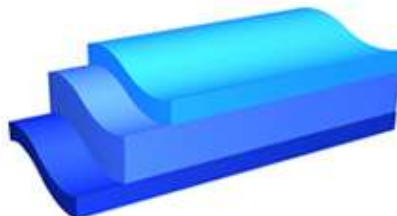

Figure 1. Multilayer Structure.
Extrusion coating, extrusion lamination and adhesive lamination of substrates are conversion processes which allow obtaining a multilayer structure. In these techniques diverse substrates of different materials are combined to get one film (see Figure 1). Materials involved in these multilayer structures include plastics, paper, cardboard and / or aluminum foil (2).
Eliminado: Figure 1